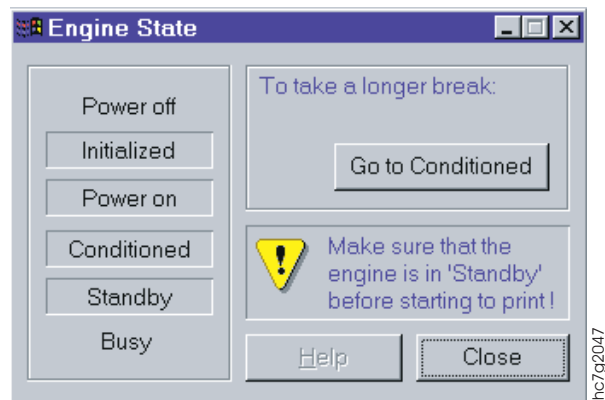

Figure 170. Engine State Control Window
2. When an emergency stop has occurred or the emergency circuit is activated automatically; e.g., by accidentally opening a door while printing, the **Engine State** control window opens as shown in Figure 170. The print engine goes first to the **Power off** state and then to **Initialized**. When